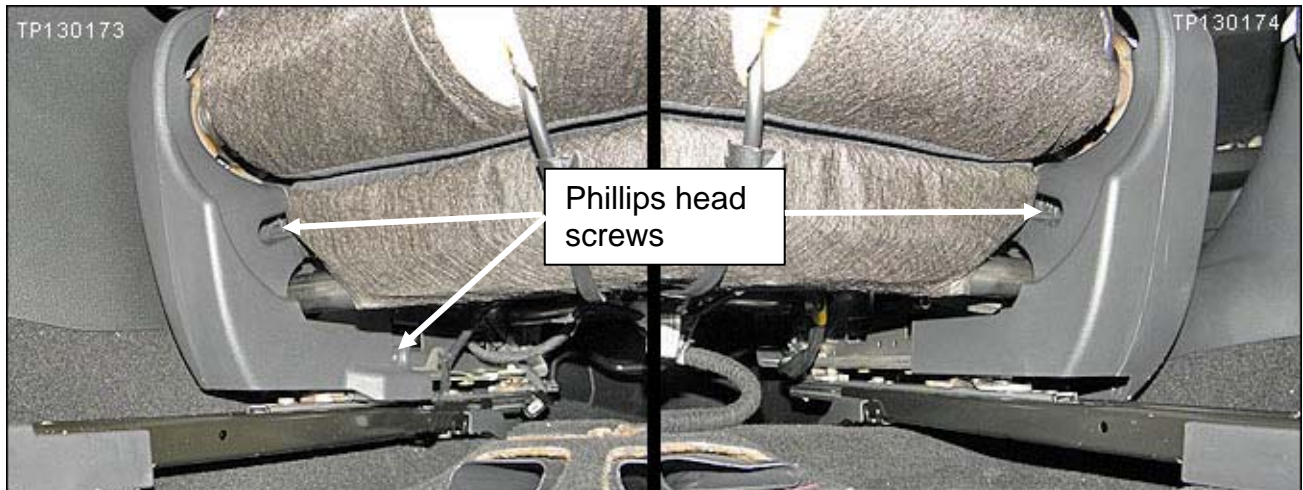

Figure 3
- a. Remove 3 screws from the finishers (see Figure 3).